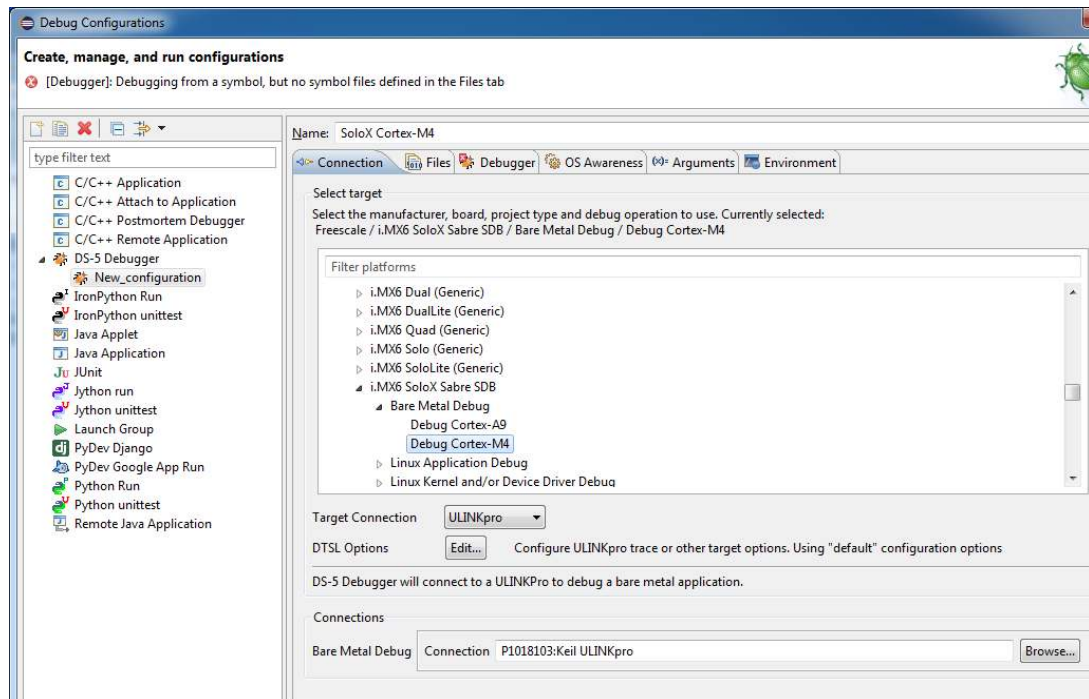

Figure 11 - Setup Debug Connection
3. Give the configuration a name such as SoloX Cortex-M4 and then select the “Connection” tab as shown in Figure 11.
4. In the “Connection” tab go to NXP → i.MX6 SoloX Sabre SDB → Bare Metal debug and choose “Debug Cortex-M4” as shown in Figure 11.